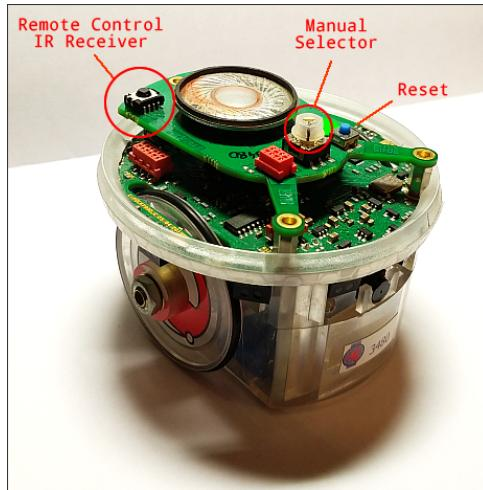

Figure F.2: Position of the remote control IR receiver on the e-puck
- (3) Locate the following two components on the upper robot support (where the speaker is located) (see Figure F.2).